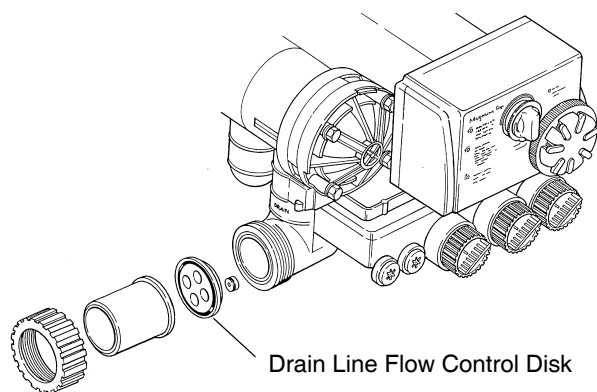

Figure 3.1
**Drain Line Piping -** To prevent mineral loss during backwash, and to ensure proper operation of the Magnum Cv Series control valve, **A DRAIN LINE FLOW CONTROL** must be plumbed into the drain line prior to placing the valve in the service mode. Flow controls from 5 to 40 gpm (18.92 to 151.4 Lpm) are available from GE Osmonics and can be easily installed in the drain line (Figure 3.1). Flow controls greater than 40 gpm (151.4 Lpm) must be plumbed externally. Selection of the proper drain line flow control will depend on the tank size and media used for the installation. See Table 10.3.